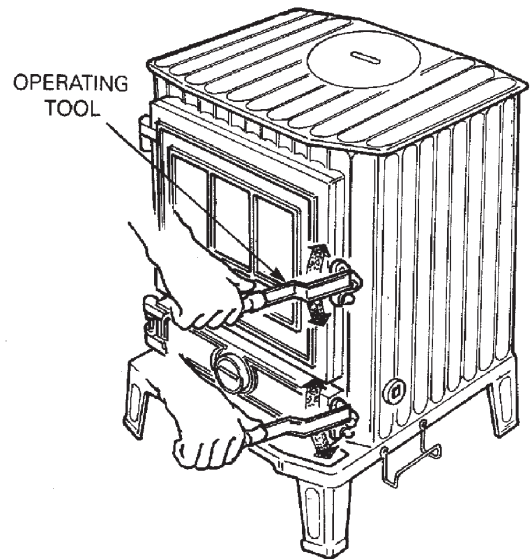
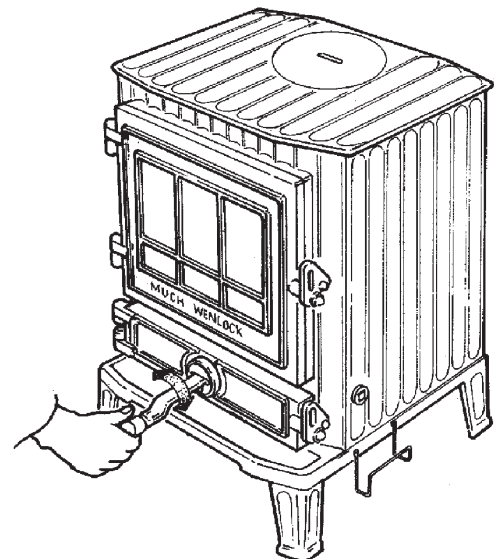

Fig. 1
Fig. 2
- (a) Open the firedoor. Fig. 1.
- (c) Close and lock firedoor. See Fig. 1 and set the ashpit door spinwheel to maximum. Fig. 2.
- (e) Close and lock the firedoor, Fig. 1 with the operating tool.
- (f) Adjust the ashpit door spinwheel, Fig. 2, to give the desired rate of burning.
- (b) Open the locked ashpit door with the operating tool. Fig. 1.